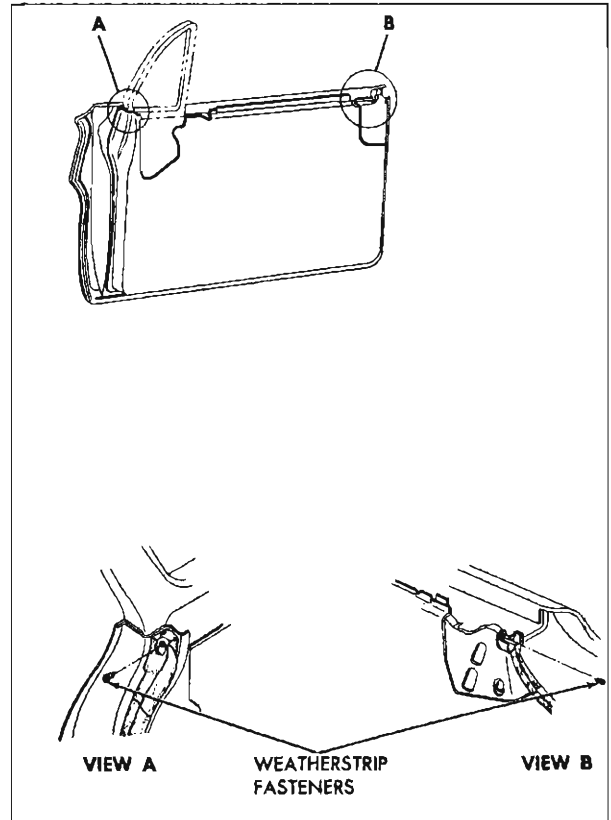

Fig. 18—Front Door Weatherstrip
1. Remove snap fasteners securing ends of weatherstrip at belt line of door hinge and lock pillar panels (fig. 18).